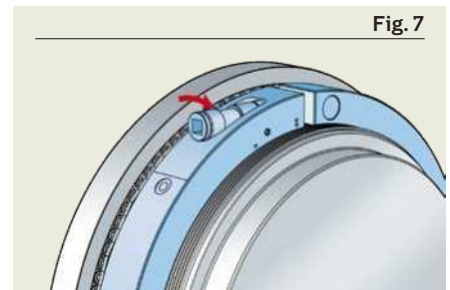

Fig. 7
- 6 Tighten the clamping bolt using a torque wrench and applying the corresponding tightening torque for premounting, listed in **table 2** on **page 7** (**fig. 7**).